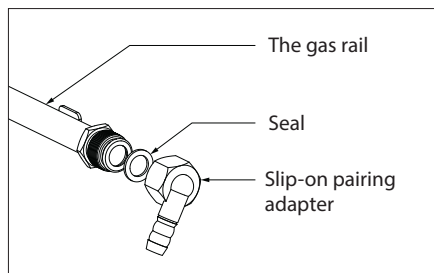

Fig. 6
- If the appliance is connected to LPG, use the plug-in pairing adapter (see Fig. 6).